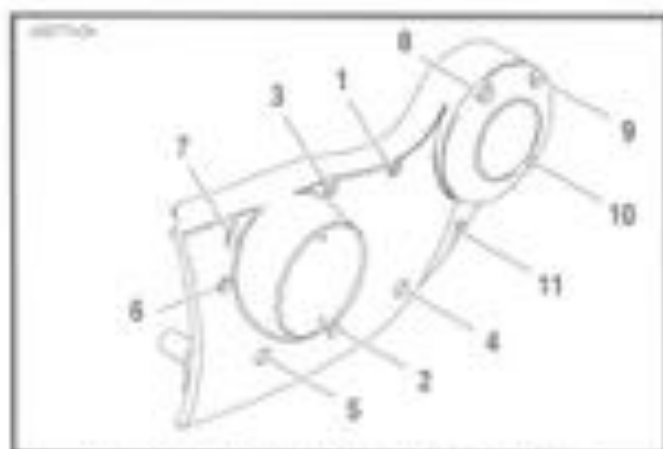

Figure 3-72. Gearcase Cover Mounting Screw Torque Sequence
- Install gearcase cover over all gears and onto right crankcase half (10). Secure cover to crankcase half with 11 socket head screws. Tighten screws evenly to 60-110 *in-lbs* (9.0-12.4 Nm) torque according to the torque sequence shown in Figure 3-72.